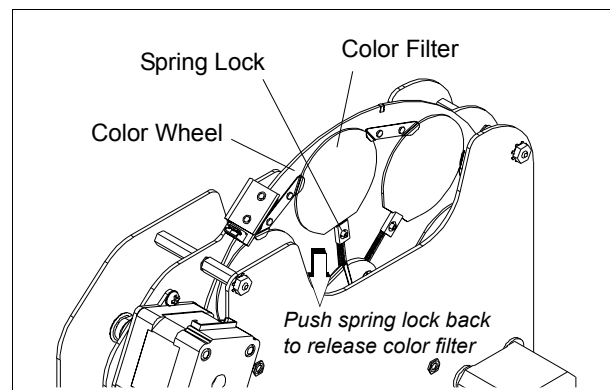

Figure A-4: Replacing a Color Filter
- Step 2. Remove top head cover by loosening four 1/4-turn screws as shown in Figure A-4.